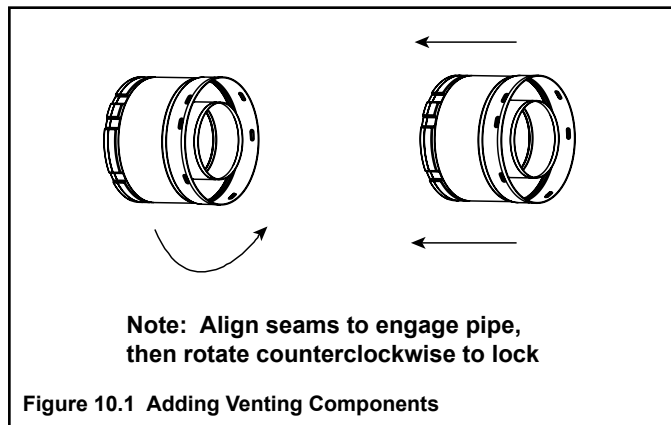

Figure 10.2 High Temperature Silicone Sealant
- Apply a bead of silicone sealant inside the female outer pipe joint prior to joining sections. See Figure 10.2